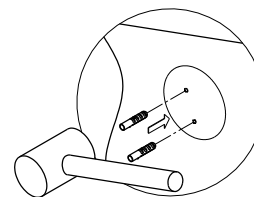

Fig. 4
Step 4. Insert anchors into the holes with a hammer until flush with the wall (fig 4).